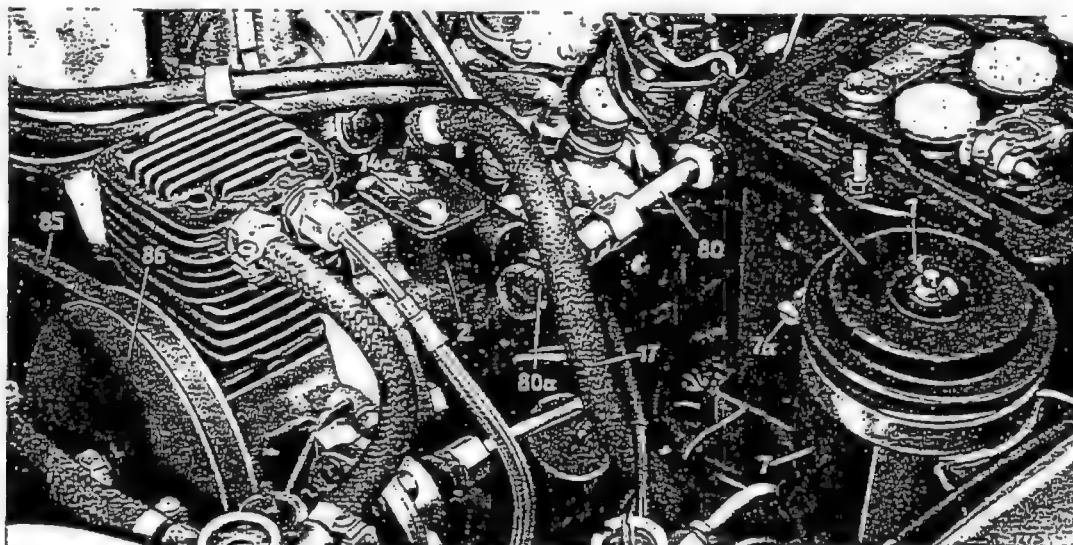

Fig. 46-26/4
1. Disconnect the high-pressure oil hose (80) and the connecting hose (17) from the high-pressure oil pump (2) (Fig. 46-26/4).
3. Unscrew the hexagon socket screws attaching the high-pressure oil pump (2) to the air compressor (Fig. 46-26/5).
9. Remove the cover (3) from the reservoir (7) and top up with oil up to the mark and bleed the system (see Fig. 46-26/4 and Job No. 46-22).